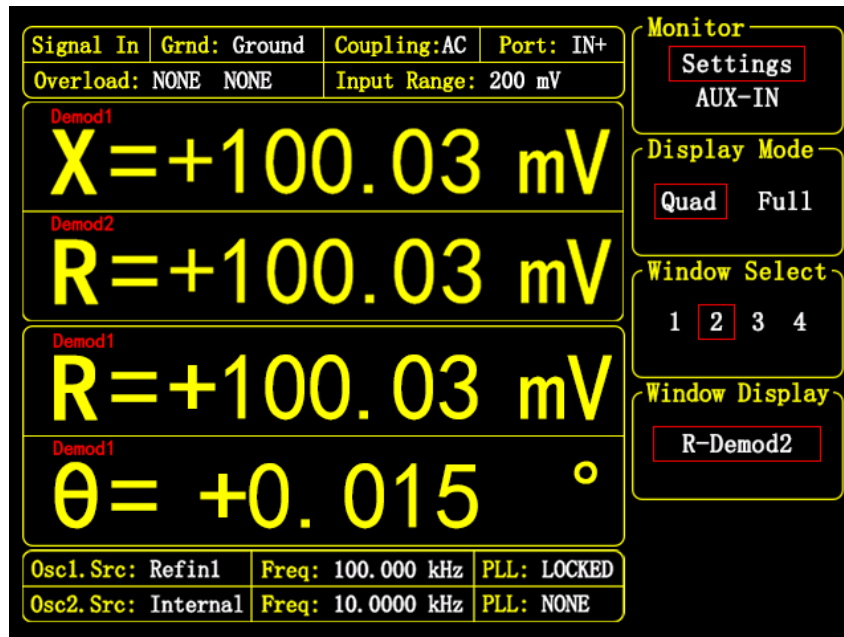

Figure 99. Modified Window Display Result
In the default system settings, the four data windows display the $\langle X \rangle$, $\langle Y \rangle$, $\langle R \rangle$, and $\langle \theta \rangle$ values of Demod1, respectively. The displayed values can be changed using the method described below. In the [Display] submenu, press "Soft key 3" to switch among $\langle 1 \rangle$, $\langle 2 \rangle$, $\langle 3 \rangle$, and $\langle 4 \rangle$ in the $\langle \text{Window Select} \rangle$ menu. For example, selecting $\langle 2 \rangle$ means that the second window is selected. Then press "Soft key 4" to select the $\langle \text{Window Display} \rangle$ menu, and use the knob to change the displayed value to "R-Demod2". After the modification, the result is shown in Figure 99. This method can be used to view the desired measurement result.